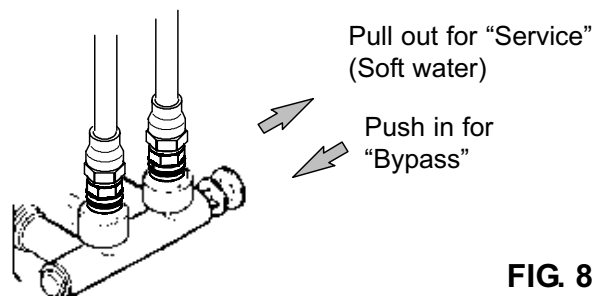
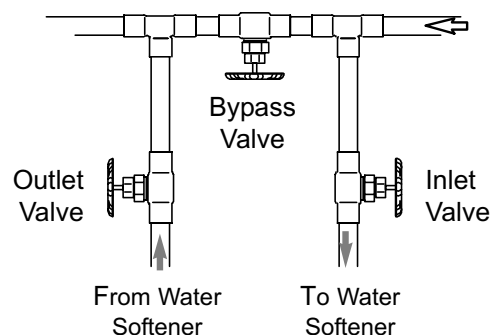

FIG. 8
FIG. 9
Always install either a single bypass valve (provided), as shown in Figure 8, or, if desired, parts for a 3 valve bypass system (not included) can be purchased and assembled, as shown in Figure 9. Bypass valves allow you to turn off water to the softener for maintenance if needed, but still have water in house pipes.
CAUTION: The house cold water pipe (metal only) is often used as a ground for the house electrical system. The 3-valve bypass type of installation, shown in Figure 9, will maintain ground continuity. If you use a plastic bypass valve at the unit, continuity is broken. To restore the ground, do the following:
2. Place the single bypass valve or 3 valve bypass in "bypass" position. See Figures 8 & 9.